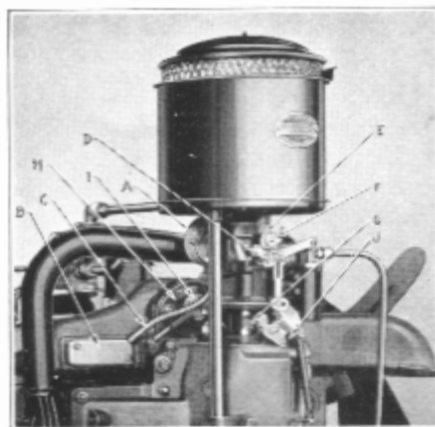

Figure 7
The automatic choke valve, the mechanism of which is contained in the insulated housing (A), Figure 7, is fully closed when the engine is cold at average temperature (75° Fahrenheit). Hot air drawn off the exhaust manifold through the stove (B) and tube (C) enters the control housing, giving accurate positioning of the choke for all starting and operating conditions.
5. Turn the two carburetor idling screws (J), Figure 7, into their seats and back out exactly $\frac{3}{4}$ of a turn.
8. Set carburetor throttle stop screw (G), Figure 7, so that engine idles at a speed equal to a car speed of 6 miles per hour in high gear.
9. Adjust carburetor idling screws (J), Figure 7, for smooth engine idling. The final adjustment should be from $\frac{1}{4}$ to $\frac{3}{4}$ turn out from its full in position.